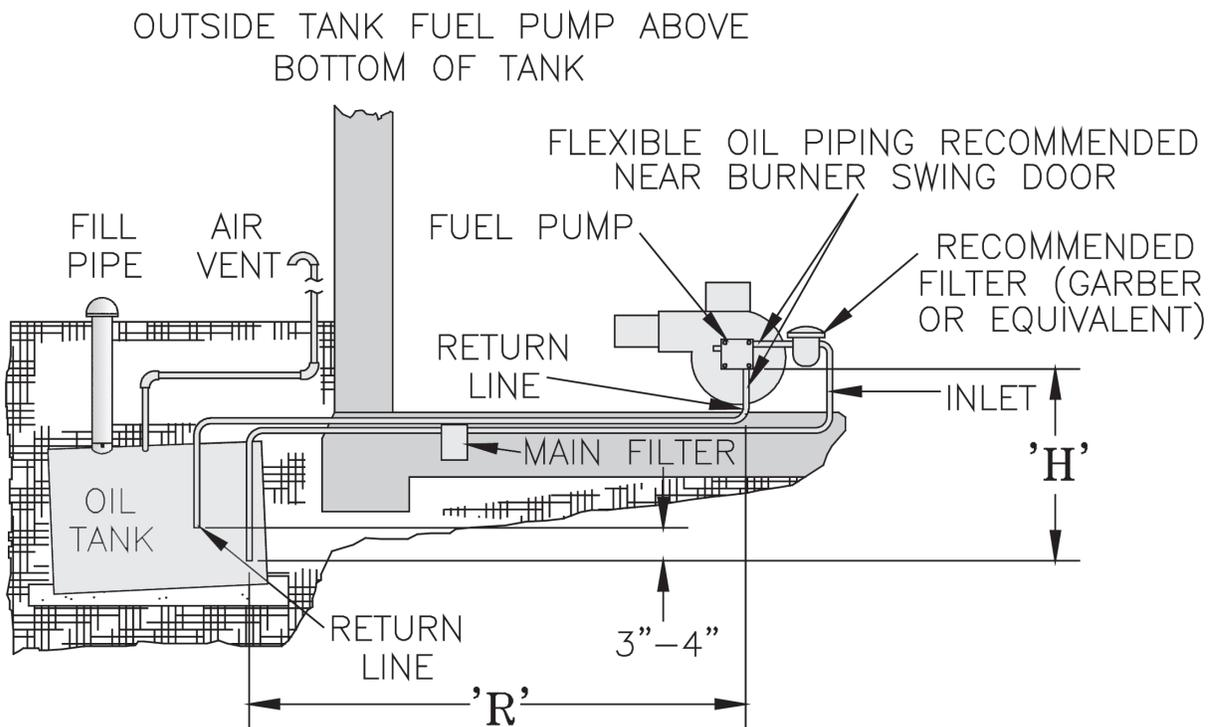

Figure 6-4: Two-Pipe Installation
1. For two-piped systems, where more lift is required, the two-stage fuel unit is recommended. Table 6-2 (single-stage) and Table 6-3 (two-stage) show allowable lift and lengths of 3/8 inch and 1/2 inch OD tubing for both suction and return lines. Refer to Figure 6-4.